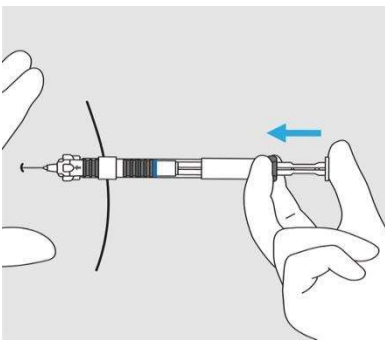

Figure 15: Push plunger to inject
5. Push the plunger all the way down slowly until entire contents of the syringe have been injected. Pull needle straight out at the same angle it was inserted, then use clean gauze to apply gentle pressure. (Figure 15)